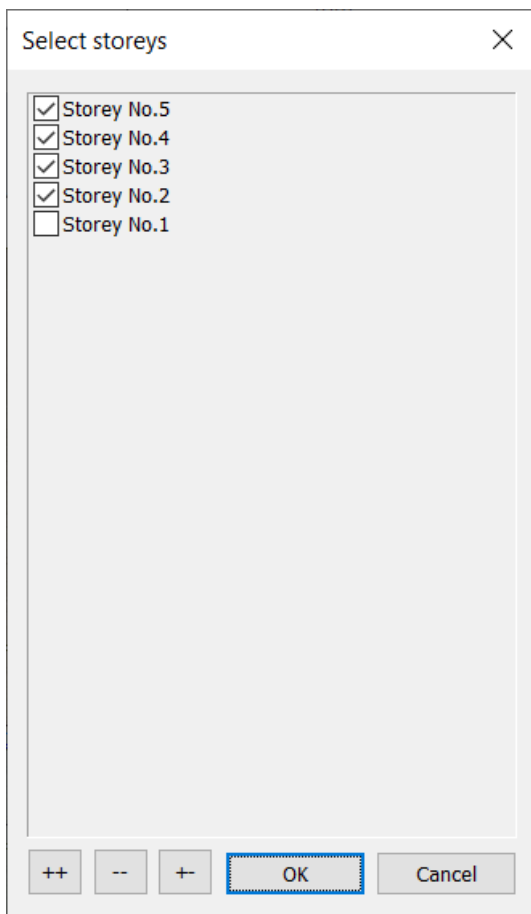

Figure 23.25. **Select storeys** dialog box
- ⇒ In the **Select storeys** dialog box (see Fig. 23.25), make sure that storeys 2, 3, 4 and 5 are selected.